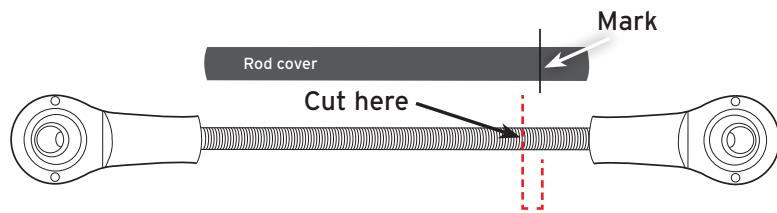

Fig. 14
6. Remove the rod linkage from the sensor arm and measure 1/2" back from the mark. This will show where to cut the rod (Fig. 14).